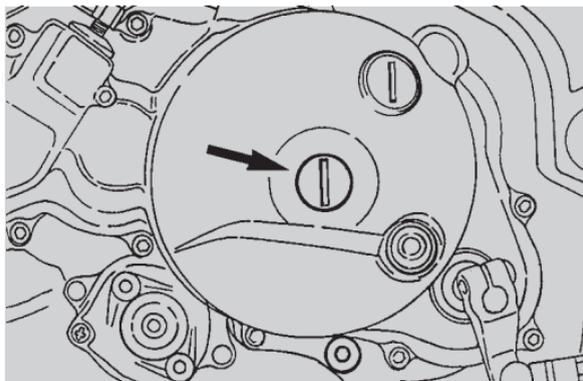

Fig. 19
- unscrew the clutch inspection cover by means of a screwdriver or a coin (Fig. 19);